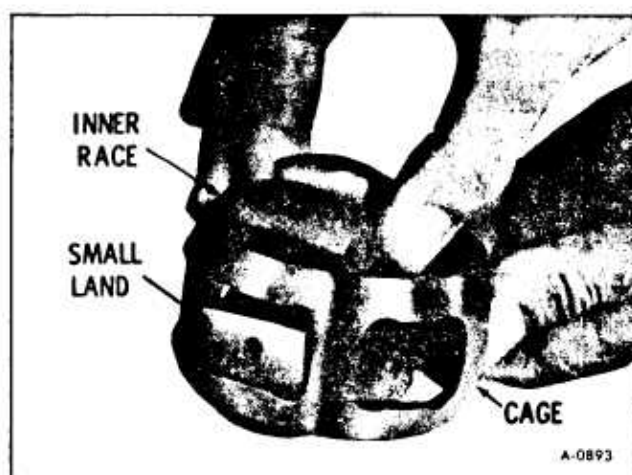

Figure 12-Removing or Installing Inner Race from Cage
in cage. Move short land through cage and turn inner race up and out of cage. (figure 12)
1. Insert short land of inner race through bore of cage and pivot to install in cage. (figure 12)